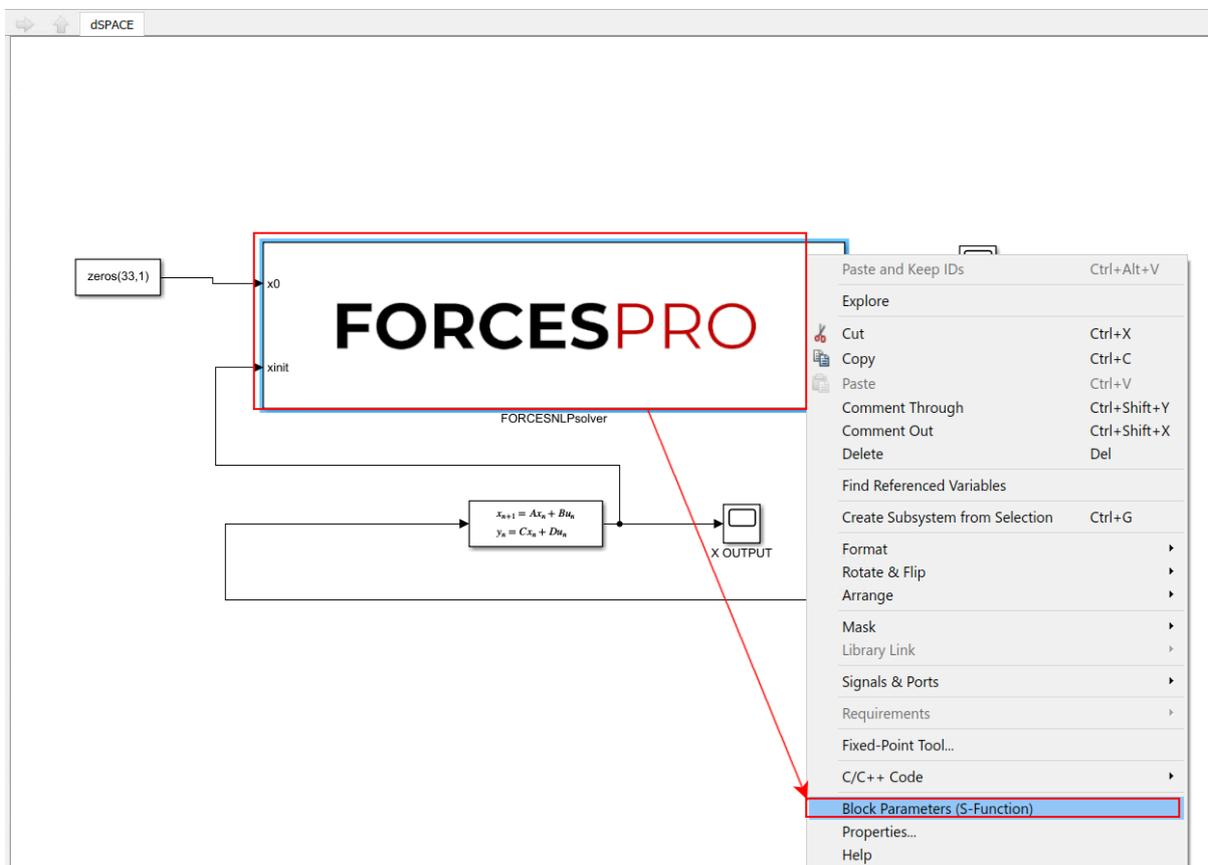

Figure 13.42: Open the FORCESPRO block's parameters.
- 13) Access the FORCESPRO block's parameters (see Figure 13.42).